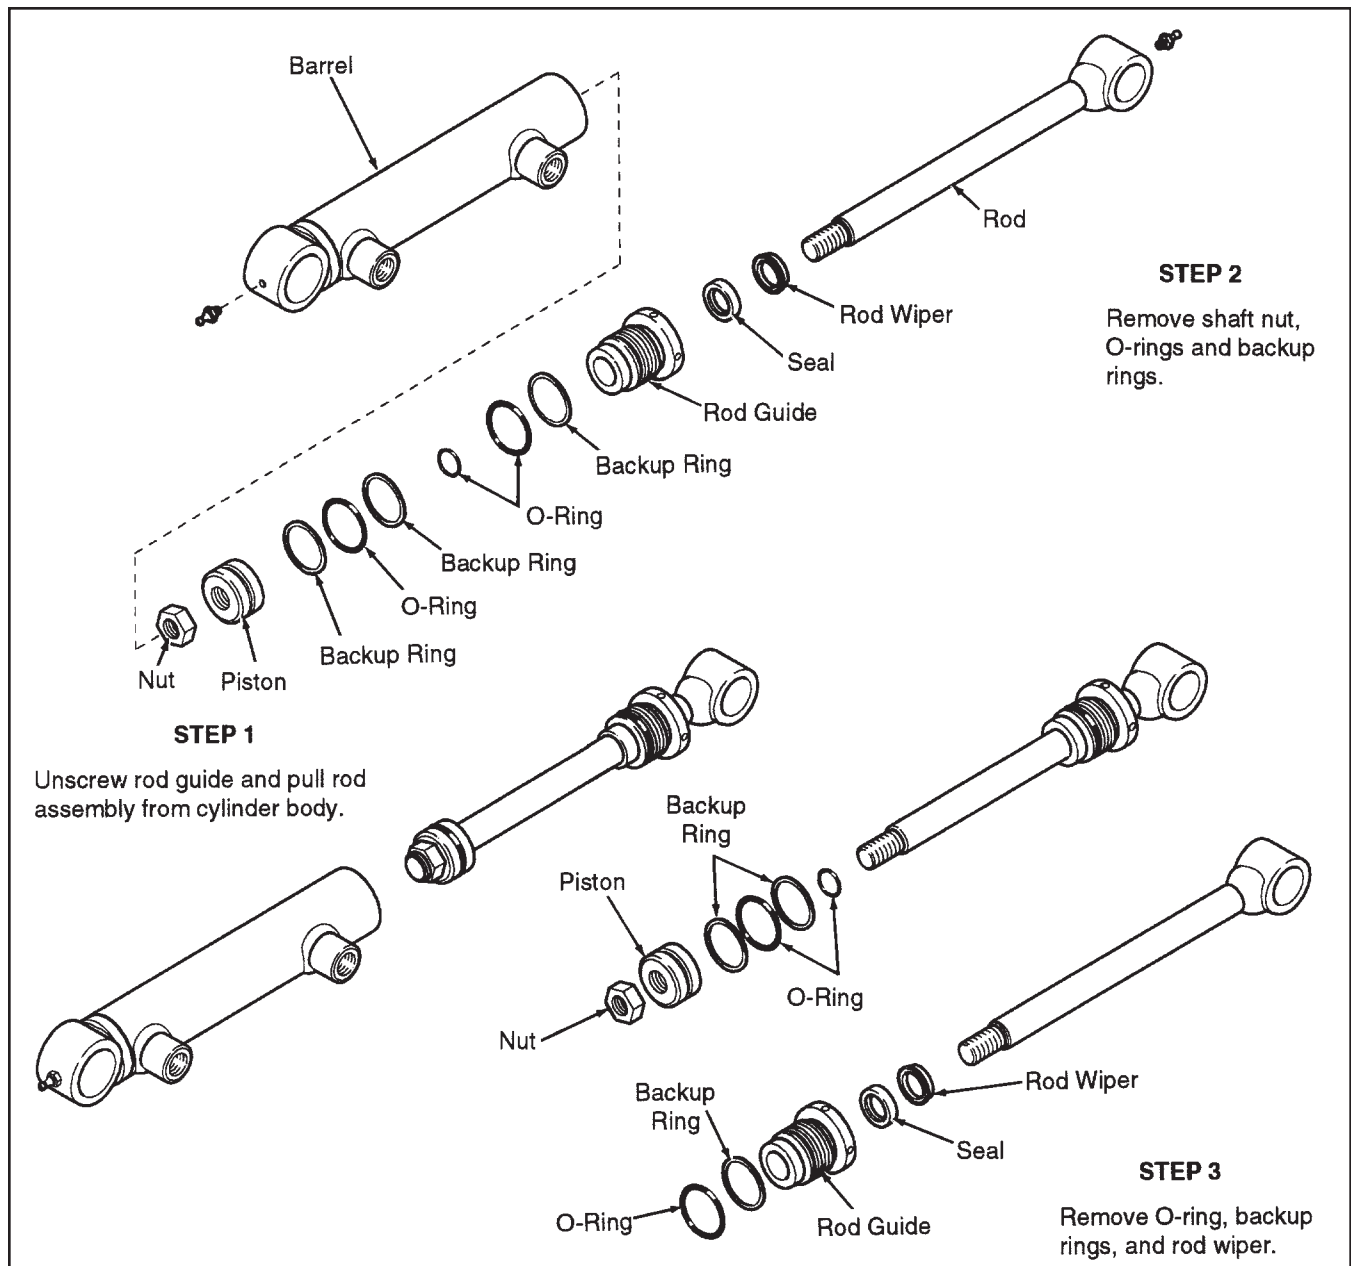

Figure 8L-1. Lift Cylinder Disassembly
DISASSEMBLY (See Figure 8L-1)
3. Disassemble, following the steps in Figure 8L-1.